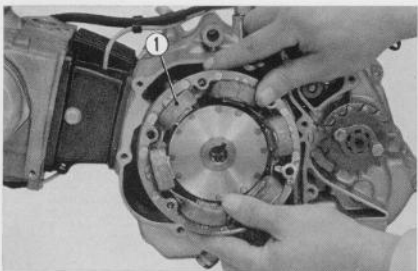

Fig. 3.12 Removing the stator assembly
2. Remove the stator assembly ①. (Fig. 3.12)